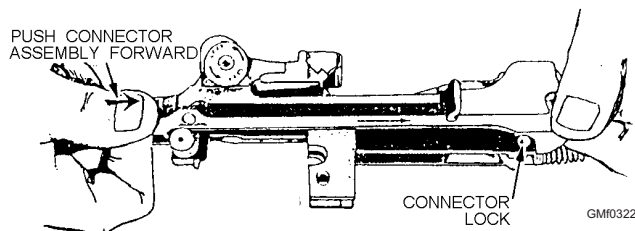

Figure 3-22.—Disengaging the connector assembly.
3. If the rifle has a selector shaft lock, press forward on the rear of the connector assembly with your right thumb, as shown in figure 3-22, until the front end can be lifted off the connector lock.